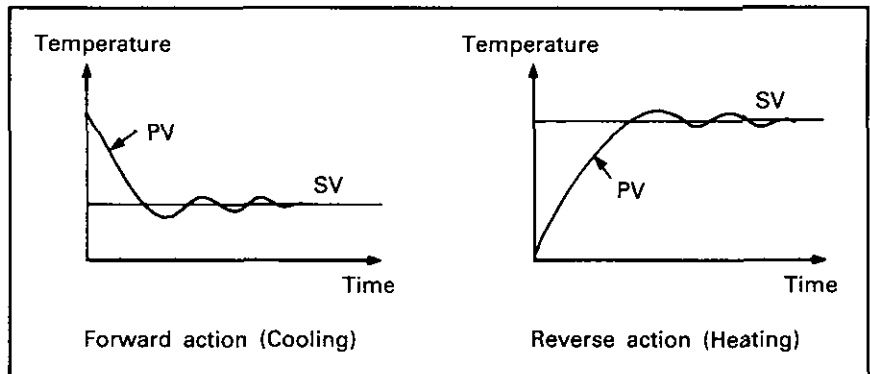

Fig. 1.4 Process Control Examples by Forward and Reverse Actions
- (3) Fig. 1.4 illustrates process control examples by the forward and reverse actions.